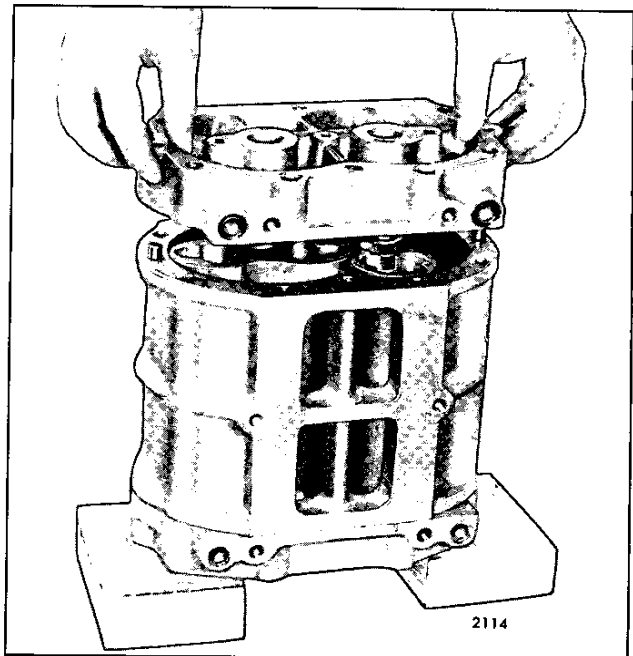

Fig. 15 - Installing Rear End Plate
- Place the rear end plate over the rotor shafts (Fig. 15). On the former blowers, be sure that the ring type oil seals are properly positioned on the rotors. Then, secure each end plate to the 3-53 blower housing with two end plate retaining screws and two cover bolts and plain washers. Secure each end plate to the 4-53 or 6V blower with four end plate cover bolts and plain washers.